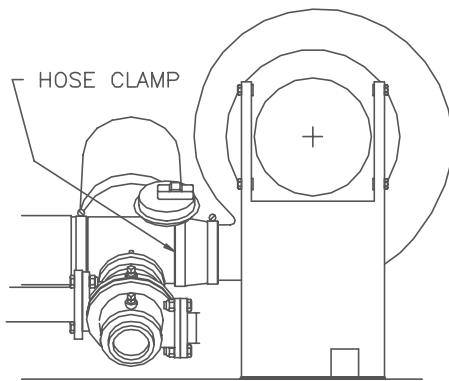

Figure 7.6
15. Loosen the hose clamp on the air/fuel valve inlet and slide the clamp back towards the blower (See Fig. 7.6).